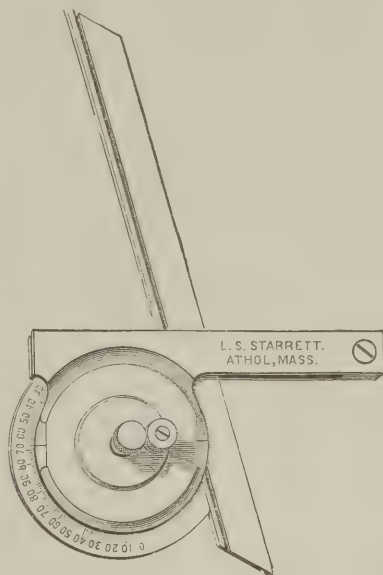

Fig. 26.—Universal Bevel Protractor.
L. S. Starrett, Athol, Mass., is putting on the market the bevel protractor illustrated in the cut shown in Fig. 26. The